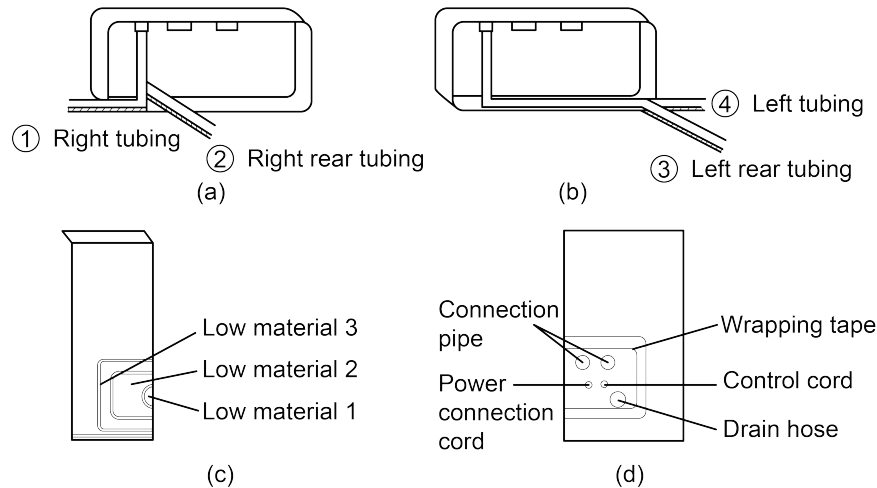

Fig. 5.6
- (1) When routing the piping and wiring from the left or right side of the indoor unit, it is necessary to cut off the tailings of the pipe left on the holder of the unit (Shown in Fig. 5.6).
- (2) Let the tubing and cord pass through the piping hole after tied up (refer to Fig. 5.6 (d)).
- (3) Hang the claw behind the indoor unit on the pothook on the wall panel, and move the unit left and right to check if the body is firm.
- (4) Guarantee that the installation height of the indoor unit should be 2.5m(8-1/4feet) above the floor.